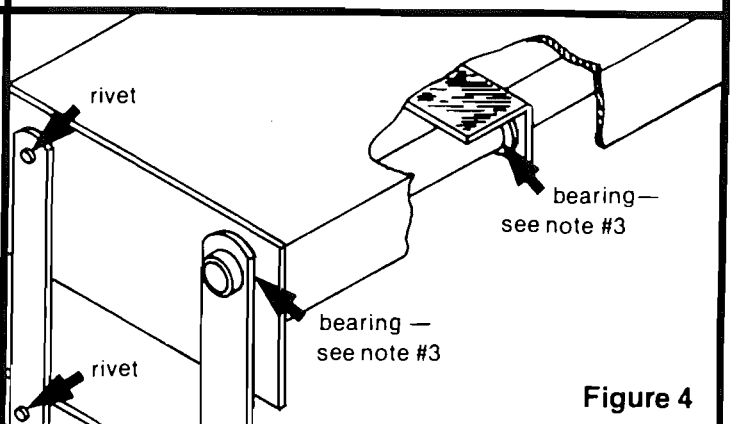

Figure 4
3. **TO CHECK THE POWER SWITCH:** Connect the voltmeter between the WHITE wire from the vehicle half of the four way plug and the ring terminal on the green ground wire (See Figure 4) The reading should be about 12 volts DC with the power switch on and zero when the switch is off. If the voltmeter reads zero with the power switch on, the first item to check is the inline fuse or circuit breaker in the wire between the power switch and the power lead (red wire).
3. Figure 4 - 1" O.D. tube bearing - lubricate around drive tube and between head of bearing and drive leg.